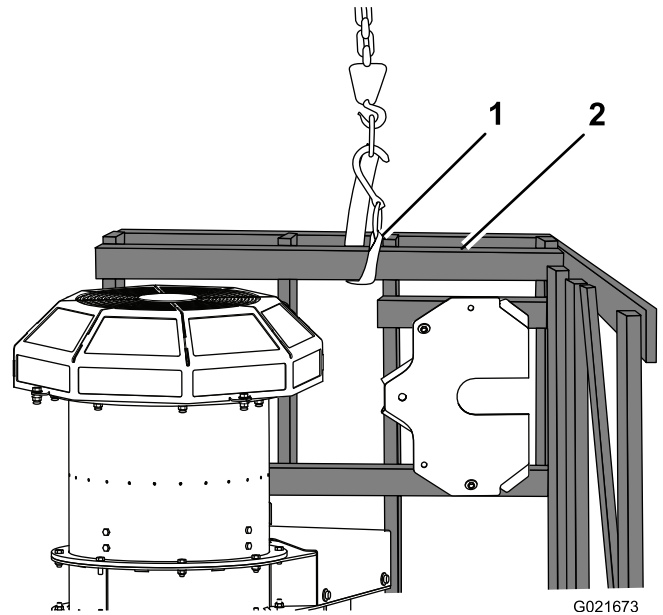

Figure 4
4. Secure a strap to the top end, 2 x 4, deckboard and lift the pallet until the crate and blower is standing up vertically (Figure 4).